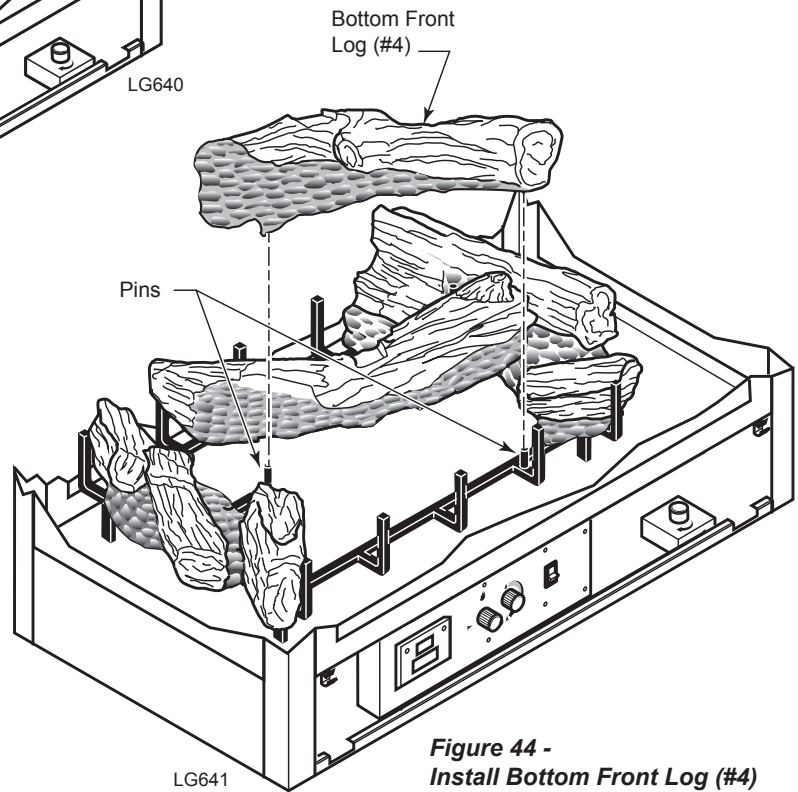

Figure 44 - Install Bottom Front Log (#4)
6. Line up pin holes on bottom front log (#4) with pins on grate. *Figure 44*